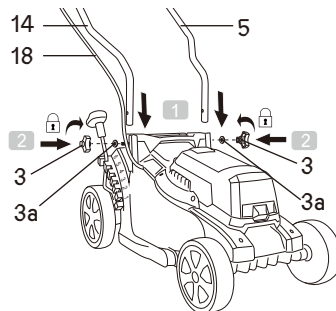

FIG.3
1. Align the mounting hole of the lower handlebar (5/14) with the mounting hole of handle support (Fig. 3, step 1).
2. Attach the washer (3a) to the bolt and secure the lower handlebar (5/14) by turning the knob (3) clockwise for tightening (Fig. 3, step 2).
3. Make sure that the control cord (18) aligns on the upper side of the lower handlebar (right) (14).